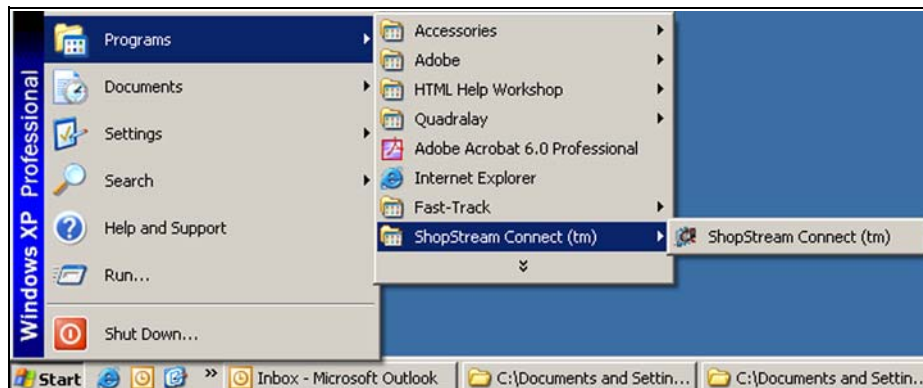

Figure 2-7 Sample Start menu selection
- Select **Start > Programs > ShopStream Connect > ShopStream Connect** (Figure 2-7).